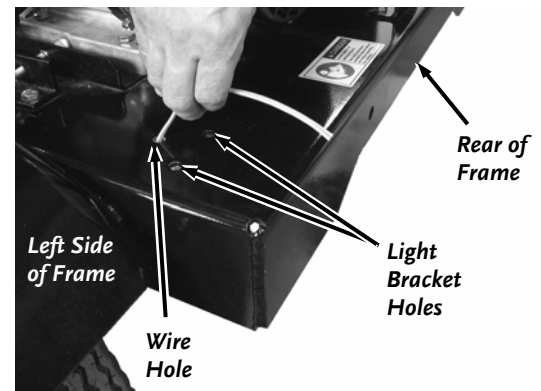

Figure 62
2. Pull the Wires to the back of the Chipper Frame. Pull the Yellow/Brown Wires up through the Wire Hole on the left rear of the Frame (**Figure 62**). Do not pull the Wires through the Bracket Holes.